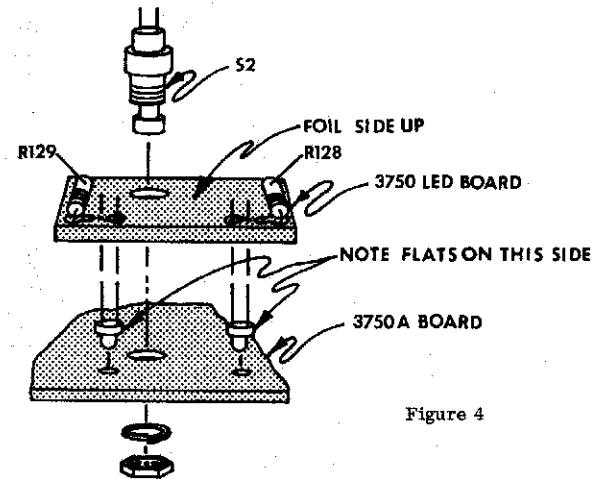

Figure 4
- () Referring to figure 4 install the two 2200 ohm (red-red-red) resistors, R128 and R129, from the COPPER SIDE of the 3750 circuit board. Once these resistors have been soldered into place, clip the leads protruding from the component side of the board flush with the board.
- () Install the two light emitting diodes (LED's). These parts should be inserted from the component side of the circuit board. Note the flat on one side of the LED case. This flat corresponds to the "-" lead of this device. Insert this lead in the hole marked "-". After insertion into the 3750LED board fold the leads of the LED back tightly against the solder pads and lightly solder. Refer to figure 4.
- () Using the hardware supplied with the push button switch install the 3750LED circuit board onto the 3750A circuit board. Refer to figure 4.